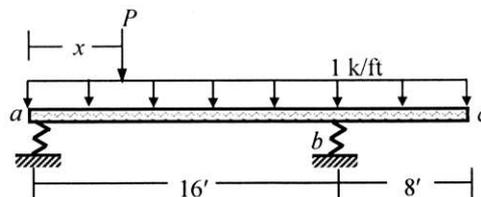

Fig. 2
3. Fig. 2 shows a rigid beam *abc* supported on helical springs *a*, *b* and subjected to uniformly distributed load 1 k/ft and concentrated force P at distance x from *a*.